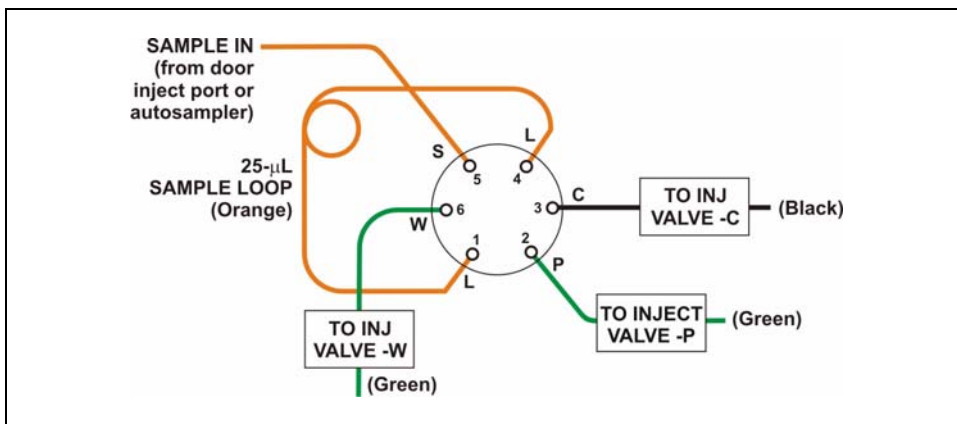

Figure 2-14. Injection Valve Plumbing
Figure 2-14 shows the injection valve connections. The injection valve is plumbed at the factory with all tubing and fittings for connection to the pump, injection port, column, and waste. A 25- μ L PEEK sample loop (P/N 042857) is installed between ports L (1) and L (4). Dionex offers